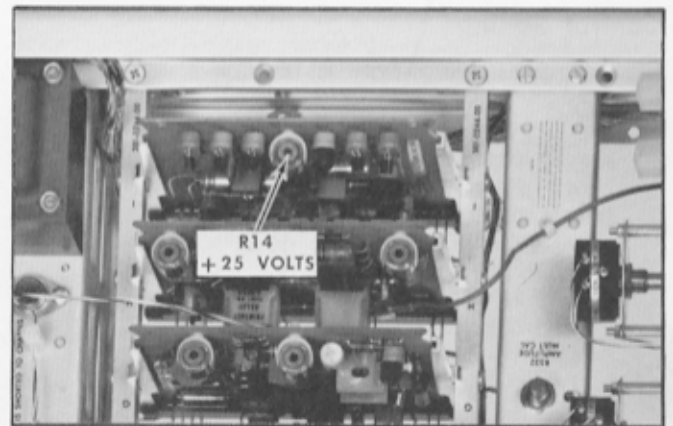

Fig. 7-6. Location of R14 (+25 VOLTS) on the Power Supply (Series I) circuit card.
- e. Adjust—R14 (+25 VOLTS) on the Power Supply circuit card (Series I) if the voltage is not correct. See Fig. 7-6 for the location of R14.